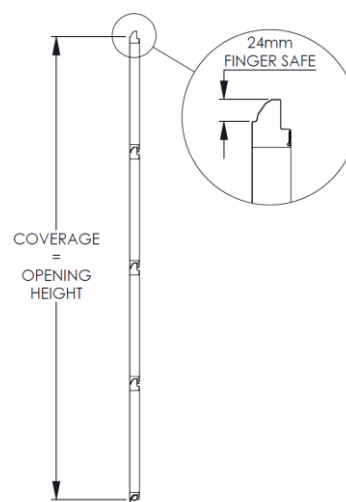

Figure 4
- d. When referring to door coverage, this does not include the 24mm of profiled at the top or the flexible weather seal. (Figure 4)